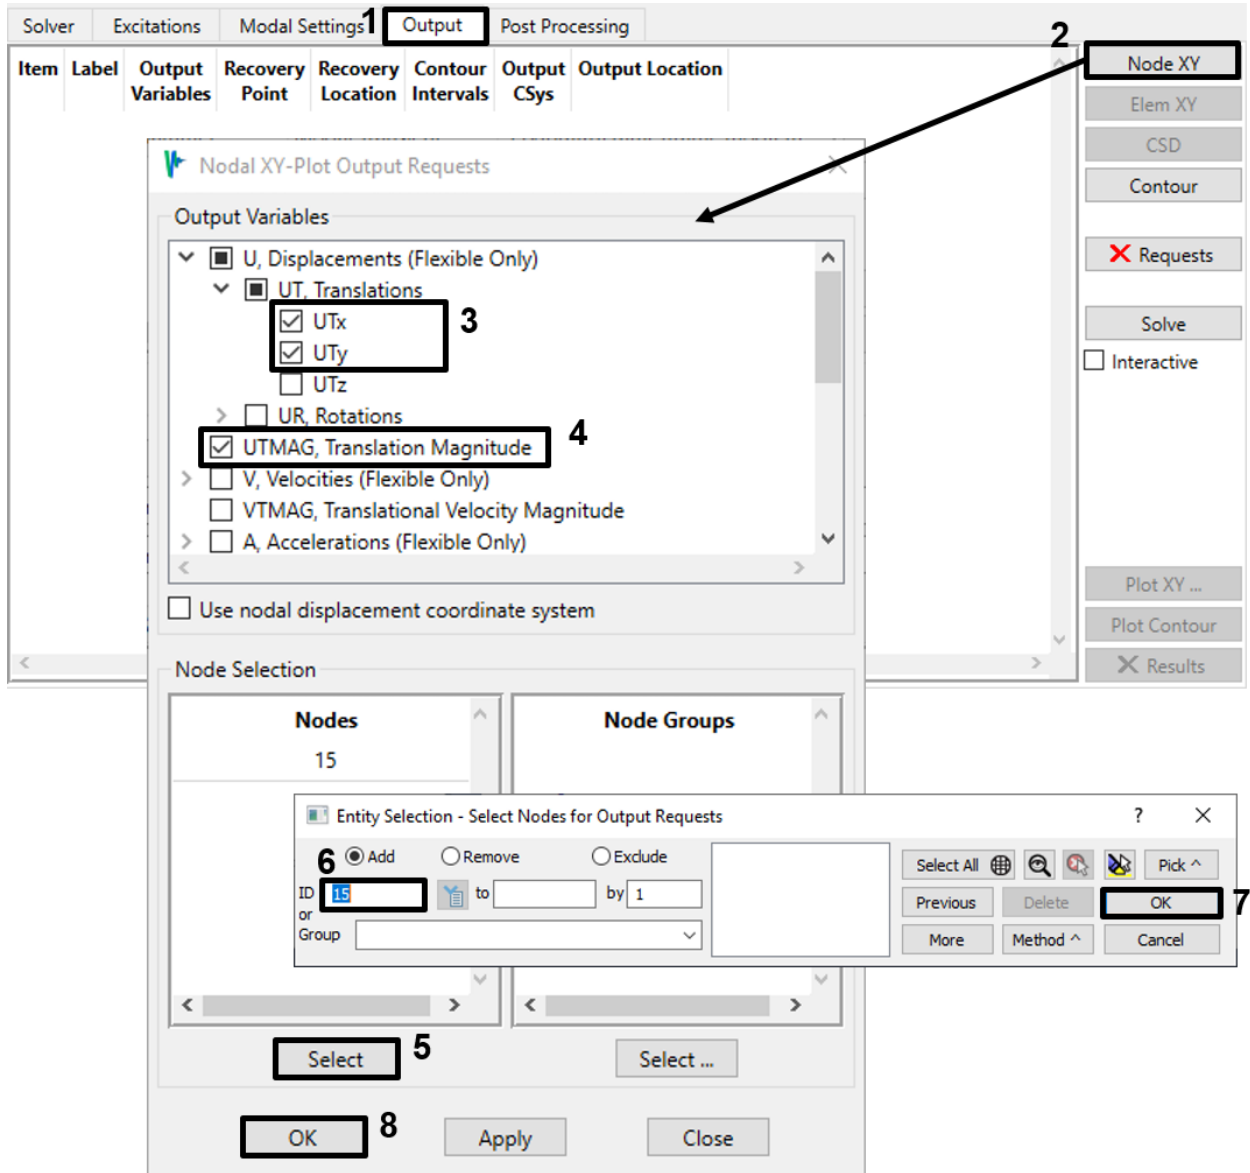

Figure 4-118. Request displacement plots for node 15.
- Go to the *Output* tab. To get a measurement of the structure's movement over time, create Nodal XY Plot output request for X and Y displacements (U_{tx} , U_{ty}) and displacement magnitude ($UTMAG$) for node 15, as in Figure 4-118.